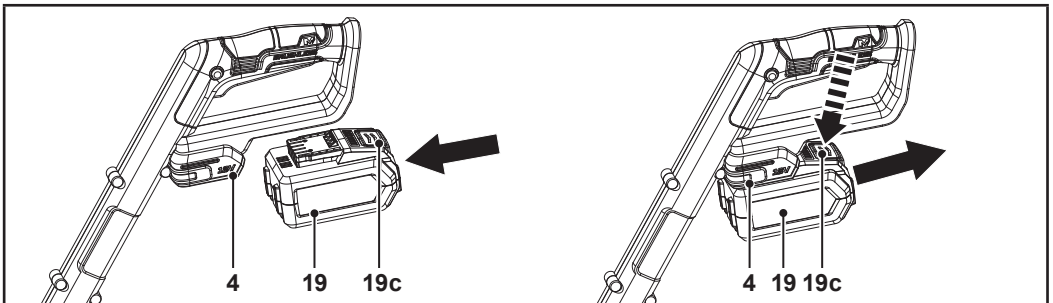

Fig. 3
Attaching: Align the battery pack (19) with the battery pack docking port (4) and slide it in. Make sure it clicks in place (Fig. 3).
Removing: Press the release button (19c) and remove the battery pack (19) from the battery pack docking port (4) (Fig. 3).
1. Connect the mains plug (20a) of the charger (20) to a suitable power supply.
2. Align the battery pack (19) to the battery pack docking port (20d) and slide it in until it locks in place (Fig. 3).